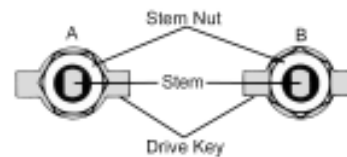

Figure 3
4. See Figure 3. Tighten stem nut with 1/2" wrench until Belleville springs have just become fully compressed (flattened). Secure the stem from turning while tightening nut; this may be accomplished by inserting a wooden or plastic dowel in the ball port of a loose valve, or by engaging the stem with the valve handle just removed. Although the nut spins freely when first run onto the stem, the torque needed to continue tightening will increase progressively after the stem nut contacts the drive key and the Belleville springs begin to deflect. The torque required to tighten further will increase sharply once the Belleville springs have become fully flattened. Tightening beyond this point should not be attempted as damage to the stem seal may result.
5. The correct orientation of the stem nut to the drive key is shown in Figure 3; this orientation is necessary to permit engagement with the twelve-point socket in the actuator pinion driver. In order to achieve the desired orientation, loosen the stem nut until the nut / drive key relationship corresponds to either 'A' or 'B' in Figure 3. This adjustment should require less than one-twelfth (1/12) turn of the nut.